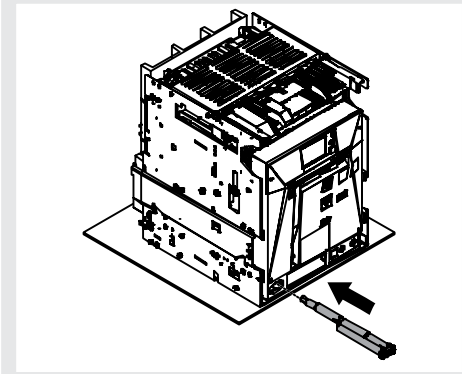

Figure 80
12. Replace the crank in its housing See Figure 80.